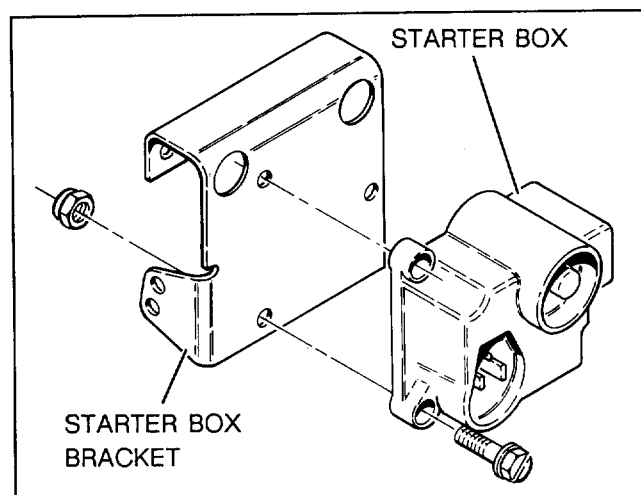

Figure 3
1. Place starter assembly and kit parts on a workbench. Align starter box bracket holes with starter box mount holes. Install and tighten (2) 10-24 x 1" lg. hex head screw and locknuts in left hand mount holes (Fig. 3). Set the third screw and locknut aside for later assembly.